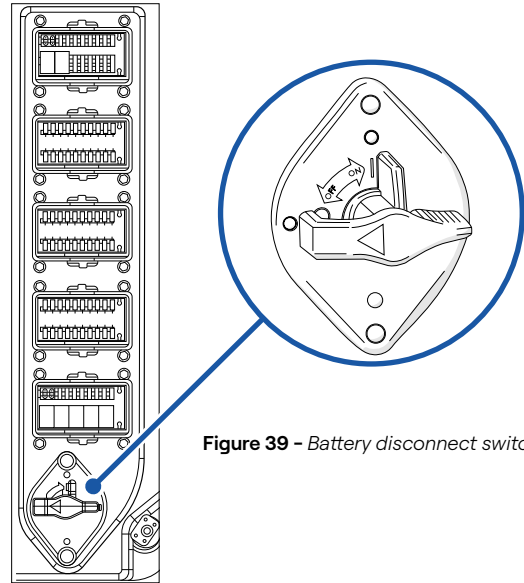

Figure 39 - Battery disconnect switch
9. Turn the battery disconnect switch to "OFF" (**Figure 39**).